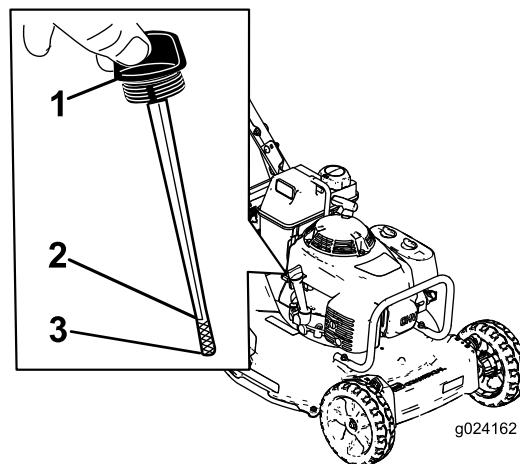

Figure 6
Before each use, ensure that the oil level is between the Add and the Full marks on the dipstick (Figure 6).
2. Clean around the dipstick (Figure 6).